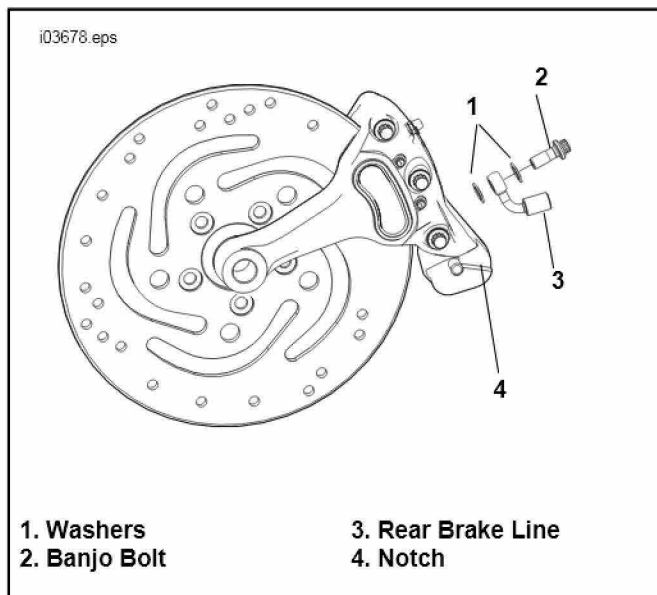

Figure 2. Rear Caliper Mount
2. See Figure 2. Remove the banjo bolt (2) and both steel/rubber washers (1) to detach rear brake line (3) from caliper. Discard washers.
4. Lift caliper away from axle and rear fork. Notch (4) in caliper mount must clear tab on rear fork.
1. See Figure 2. Place caliper on rear axle with notch (4) inside rear fork tab. Verify that the rubber bumper is contacting the underside of the caliper mount for the full length of the bumper. Install rear axle and check drive belt tension per applicable Service Manual instructions.
2. See Figure 2. Lubricate two **new** steel/rubber washers (gaskets) (P/N 41731-88A) with Harley-Davidson D.O.T. 5 SILICONE BRAKE FLUID. Connect the rear brake line (3) to caliper using two **new** washers (2) and banjo bolt. (1) Tighten banjo bolt to 17-22 ft-lbs (23.0-29.8 Nm).